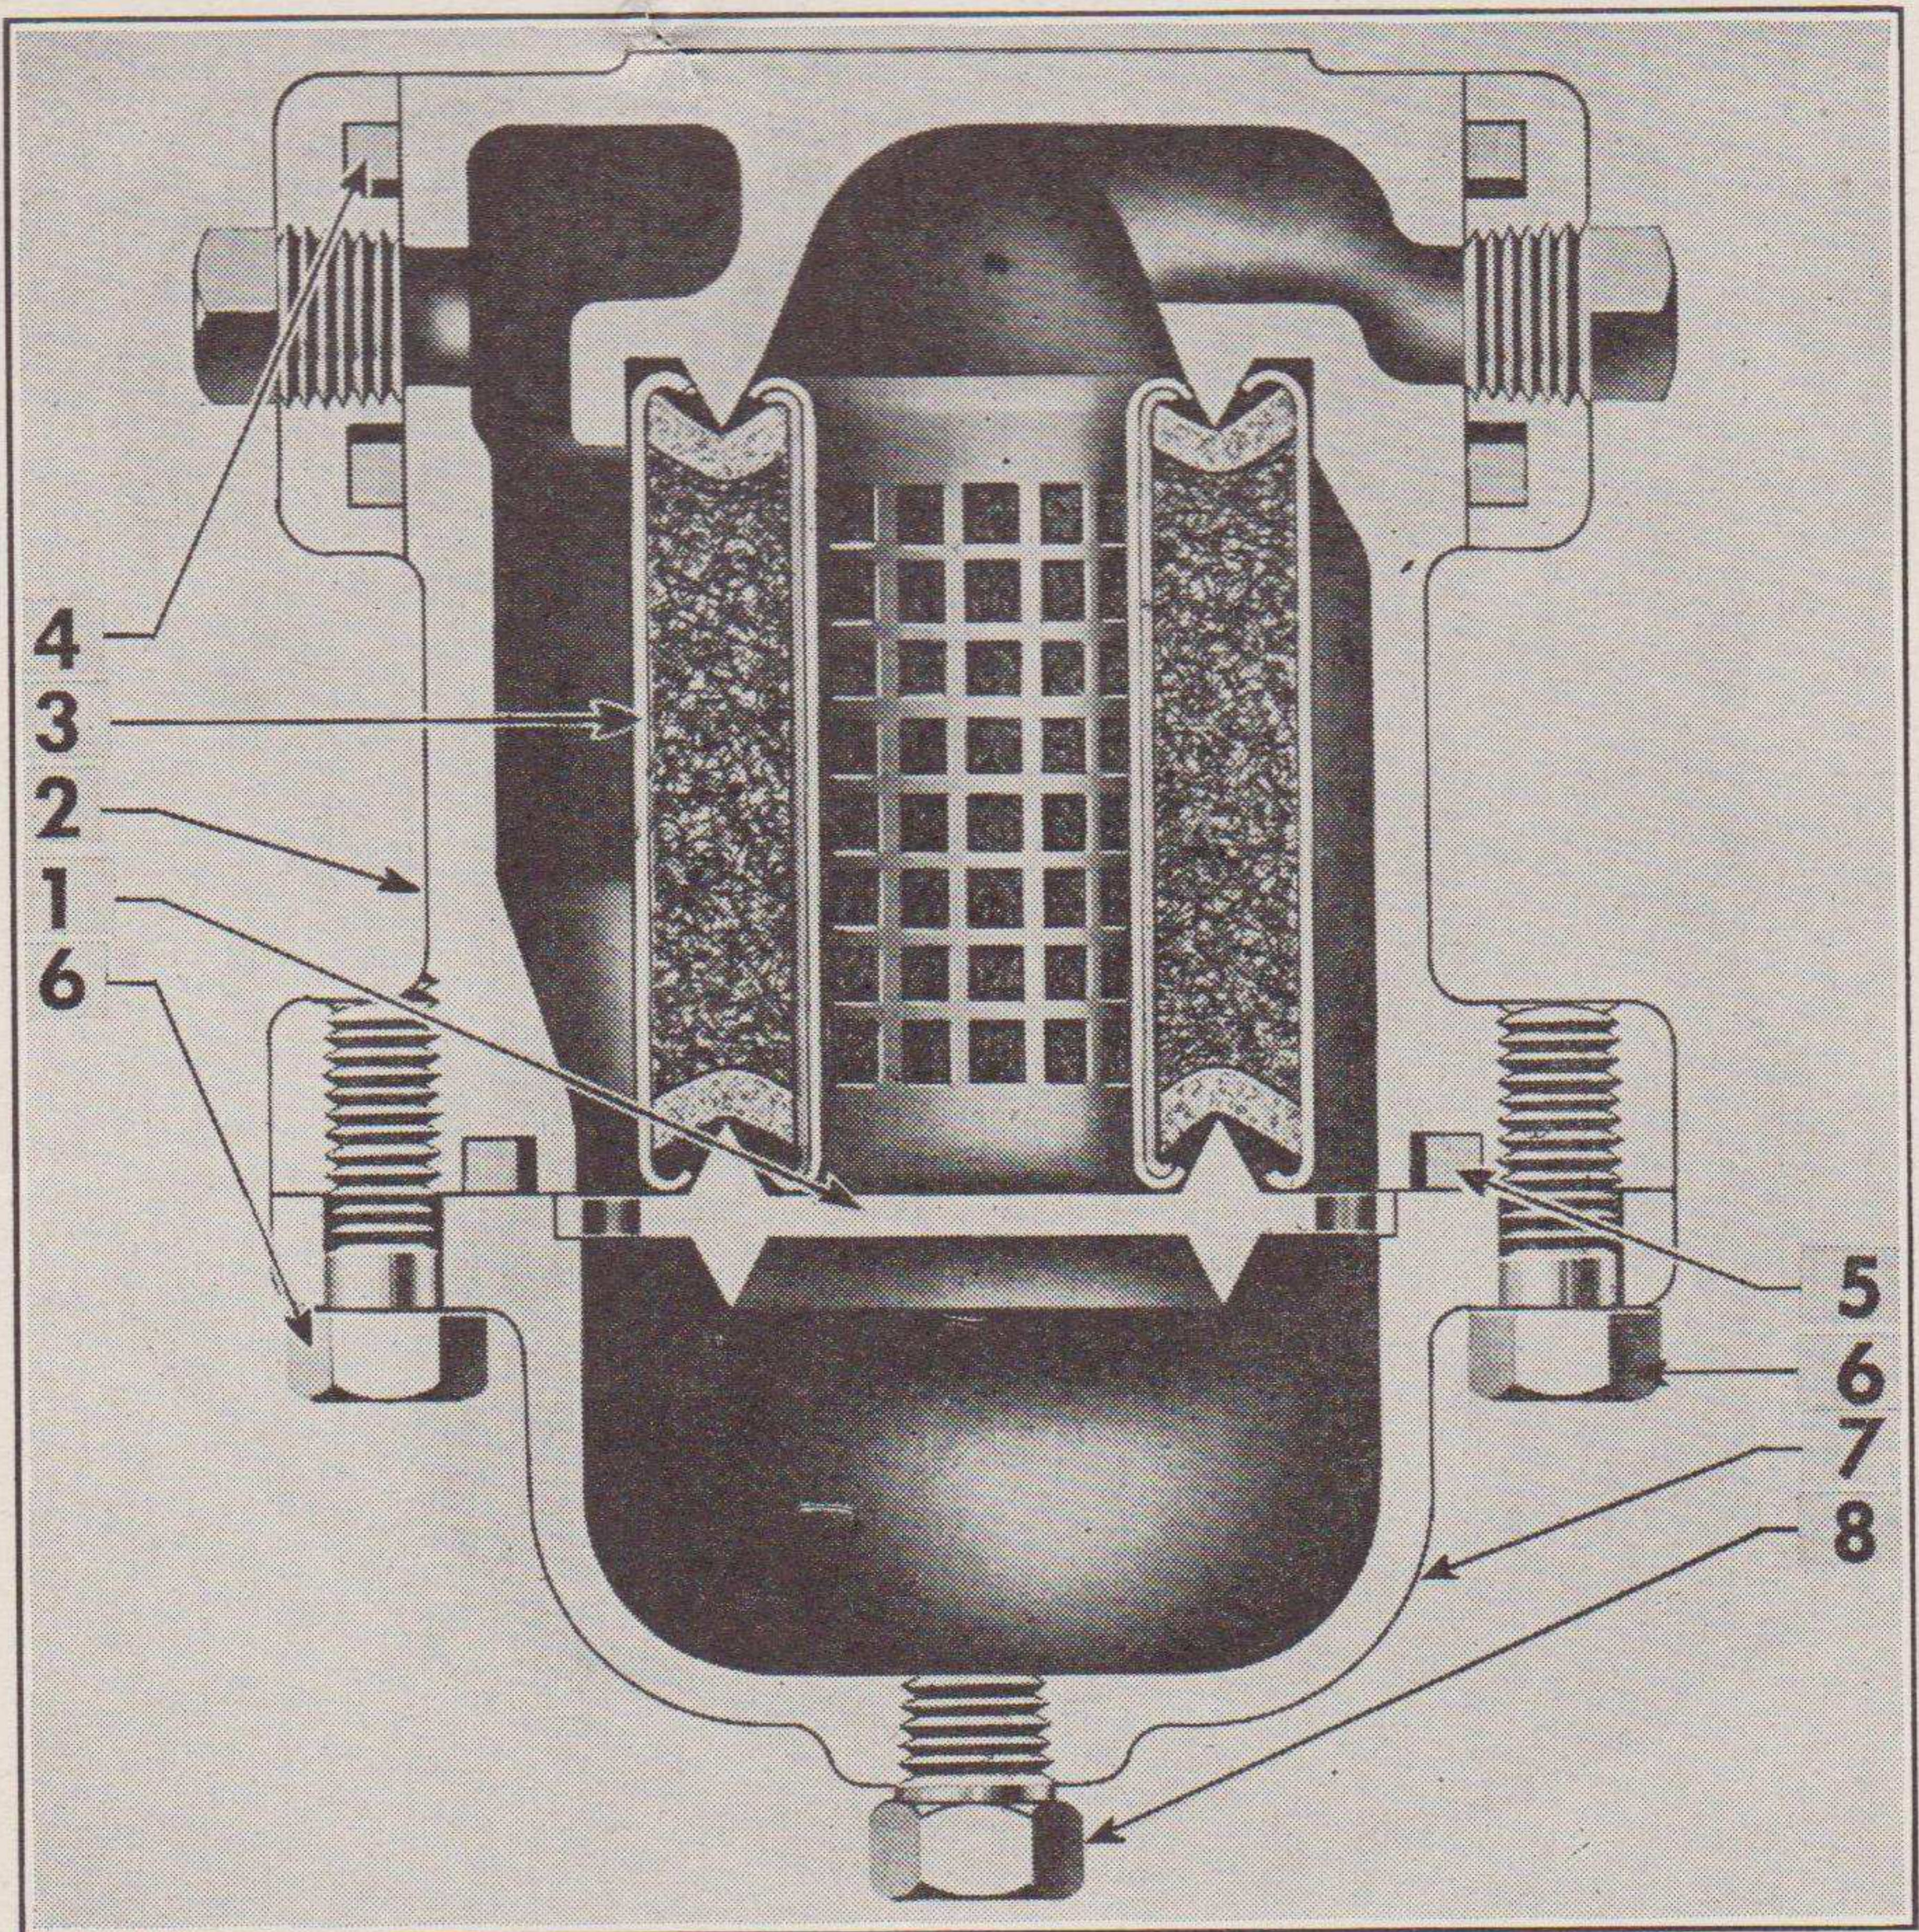

FIGURE 48. AIR FILTER
* For Breakdown—Refer to Fig. 48.
(FIGURE 48)